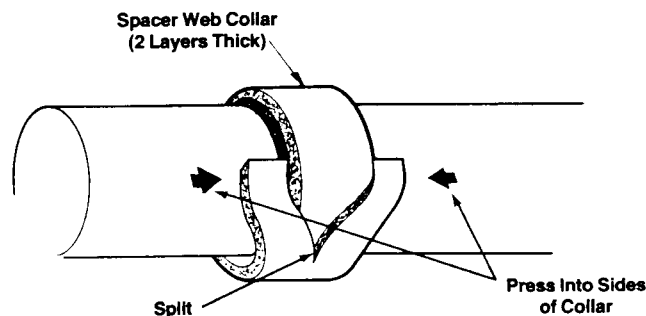

Figure 3
2. Split end of spacer web and press into sides of collar to hold in place. (Figure 3)